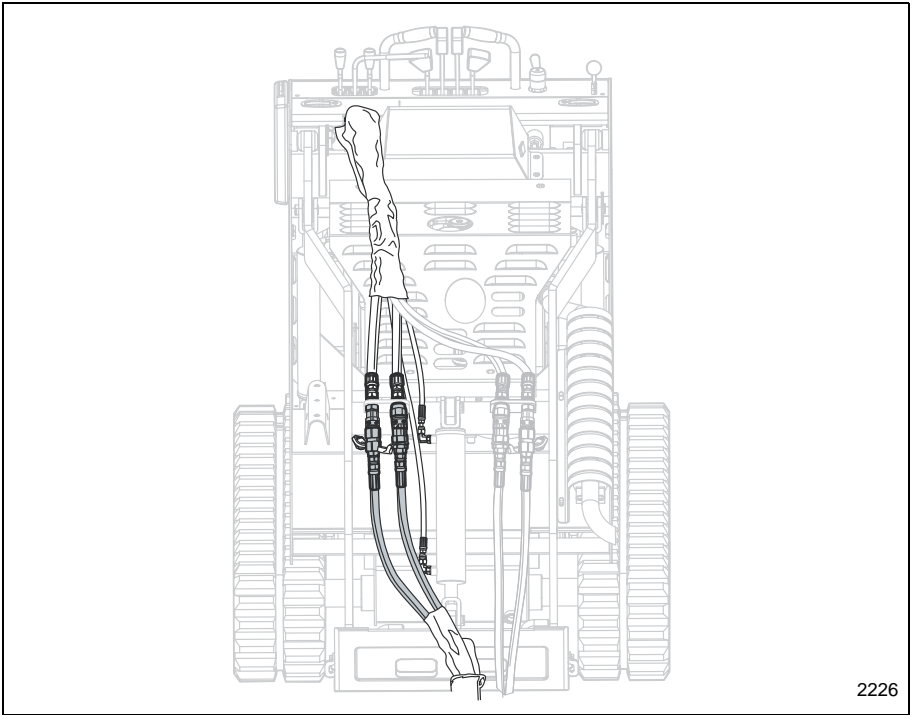

Figure 7 Attachment Hydraulic Hose Routing
12. Make sure that the hydraulic hoses are routed so that they will not be in the way or damaged during machine operation. **Figure 7** shows how the hoses might be routed to keep them out of the way during operation and prevent them from being damaged.